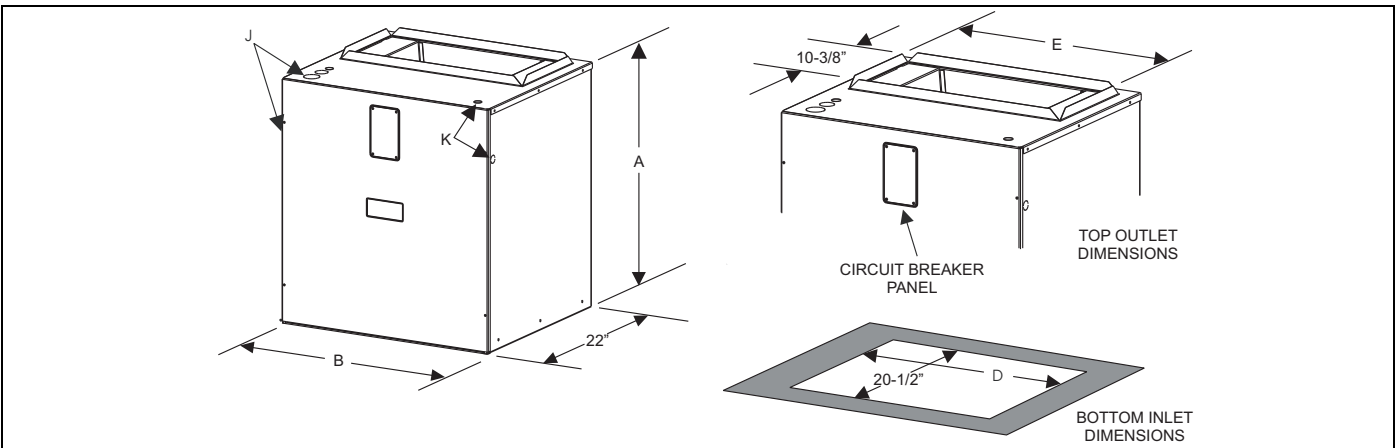

FIGURE 4: Dimensions & Duct Connection Dimensions
2. Refer to the unit rating plate for the air handler model number, and then see the dimensions page of this instruction for supply air plenum dimensions in Figure 4. The plenum must be installed according to the instructions.
Air supply and return may be handled in one of several ways best suited to the installation. Refer to Figure 4 for dimensions for duct inlet and outlet connections.
The supply air duct should be properly sized by use of a transition to match unit opening. All ducts should be suspended using flexible hangers and never fastened directly to the structure. This unit is not designed for non-ducted (freeblow) applications. Size outlet plenum or transition to discharge opening sizes shown in Figure 4 and 5.
Field supplied low voltage wiring can exit the unit on the top right hand corner or the right hand side panel (refer to Figure 4).